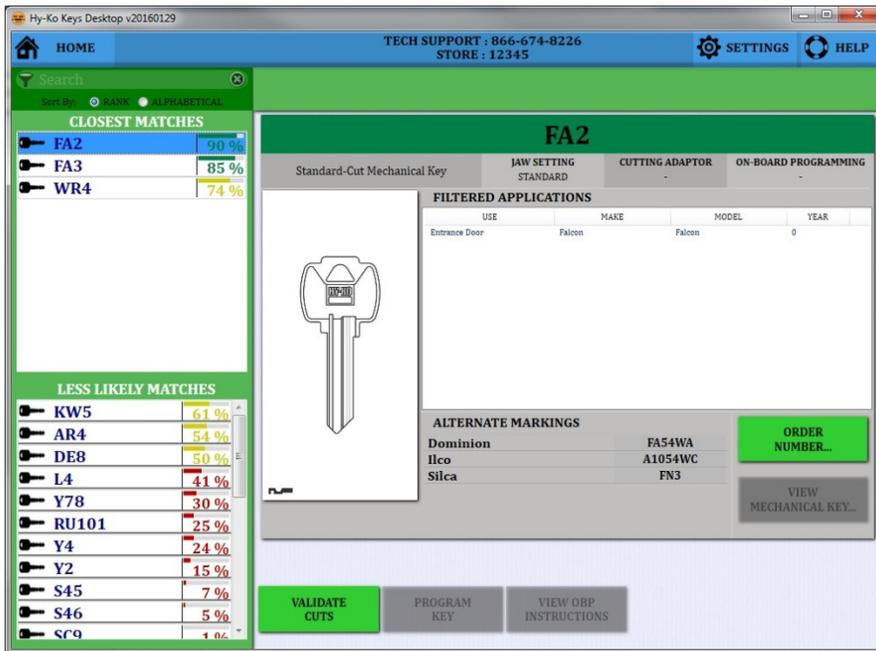

fig. 35
- Click on any key number to see the information on that particular key. An image of the blank and the cross section will be shown as well as other manufacturer part numbers and applications (see fig. 35).